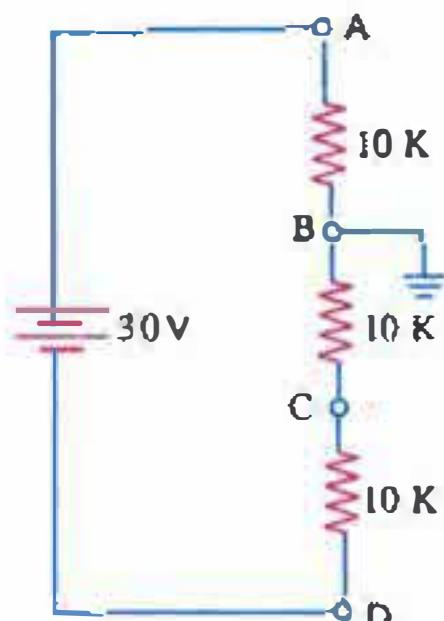

Fig. 1.21
7. In the series circuit of Fig. 1.21, compute the voltage to chassis ground of points A, C and D. What is the p.d. between A and C ? [+10 V; −10 V; −20 V; 20 V]